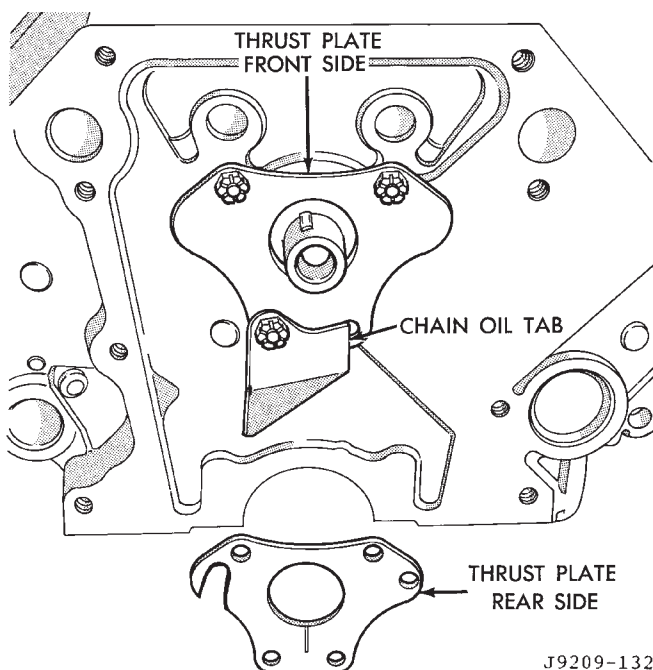

Fig. 28 Timing Chain Oil Tab Installation
- (1) Remove intake manifold.
- (2) Remove cylinder head covers.
- (3) Remove timing case cover and timing chain.
- (4) Remove rocker arms.
- (5) Remove push rods and tappets. Identify each part so it can be installed in its original location.
- (6) Remove distributor and lift out the oil pump and distributor drive shaft.
- (7) Remove camshaft thrust plate, note location of oil tab (Fig. 28).
(8) Install a long bolt into front of camshaft to facilitate removal of the camshaft. Remove camshaft, being careful not to damage cam bearings with the cam lobes.